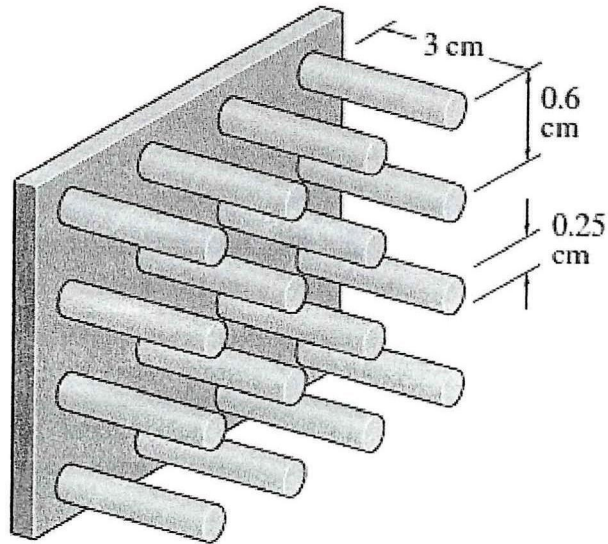

Figure Q1(c)
- (c) A hot surface at 100°C is to be cooled by attaching 3 cm long, 0.25 cm diameter aluminum pin fins ($k = 237 \text{ W/m}^{\circ}\text{C}$) to it, with a center-to-center distance of 0.6cm. The temperature of the surrounding medium is 30°C , and the heat transfer coefficient on the surfaces is $35 \text{ W/m}^2\text{ }^{\circ}\text{C}$ (as shown in **Figure Q1(c)**). By using **Table Q1(c)**, determine the rate of heat transfer from the surface for a 1-m x 1-m section of the plate. Also determine the overall effectiveness of the fins. (15 marks)